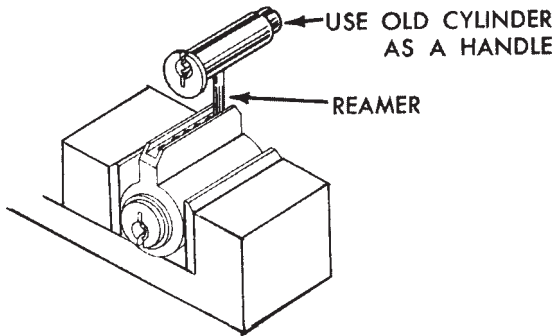

Figure 9.24 Ream the pin holes through the shell, master ring, and plug. (*Emhart Corp.*)
3. Ream pin holes through the shell, master ring, and plug (Fig. 9.24).